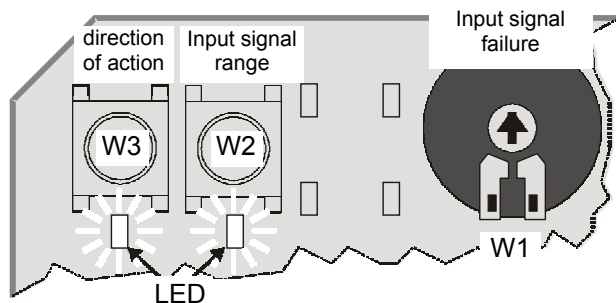

Fig. 1. Pushbuttons and potentiometer (default positions)
Factory setting; can be reversed by pressing the right-hand pushbutton (W3) located on the PCB (see Fig. 1).
The range of the analog input signal Y can be changed by pressing the right-hand pushbutton (W2) located on the printed circuit board (see Fig. 1). If the corresponding LED
is lit, this indicates that the actuator is set for 0...10 V. Using the potentiometer (W1) located on the printed circuit board (see Fig. 1), the actuator can be adjusted such that in case of a signal input failure (e.g. a broken wire), the actuator will run to any pre-configured position between 0% and 100%. The factory setting is with the actuator stem in the central position (50%).
The direction of action can be reversed by pressing the left-hand pushbutton (W3) located on the printed circuit board (see Fig. 1). If the corresponding LED is lit, this indicates that the actuator stem will retract at a control signal of 0(2) Vdc (factory setting); if it is dark, the actuator stem will extend at a control signal of 0(2) Vdc.